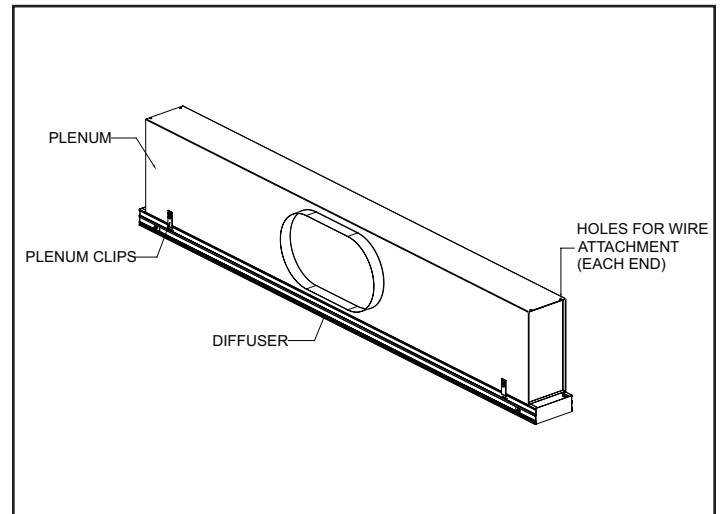

Figure 23. Installation of FlowTee Diffuser
- Install the Diffuser on top of the ceiling grid as shown in Figure 23.